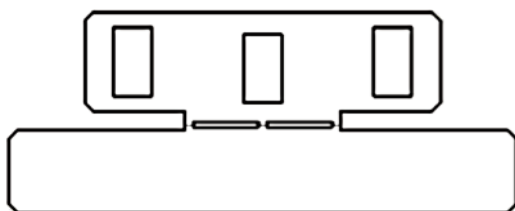

Fig. 8: Heat Exchanger “Anti-bounce” Bracket
1. Remove the sheet metal “anti-bounce” bracket insert (if present) from the upper mounting brackets located behind the heat exchanger (Fig. 8). This clip is used to avoid vertical motion of the heat exchanger during transport and is not required to be installed with the replacement heat exchanger.